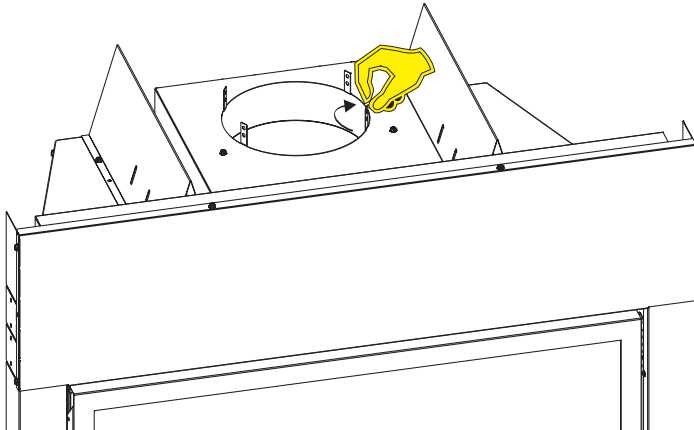

Figure 22
1. Hand bend the tabs on the Outer Wrapper Top Assembly as shown in Figure 22.